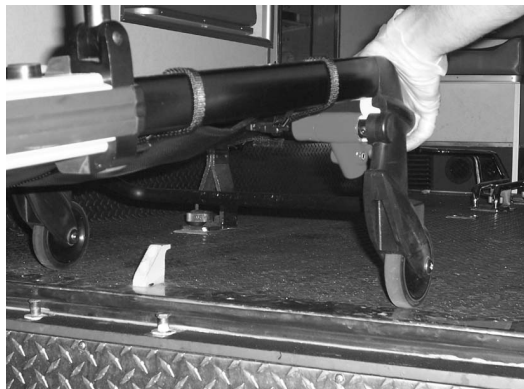

Figure 46
4. **Operator 2** – Pull the safety bar release lever forward to disengage the safety bar from the safety hook in the patient compartment (Figure 46).